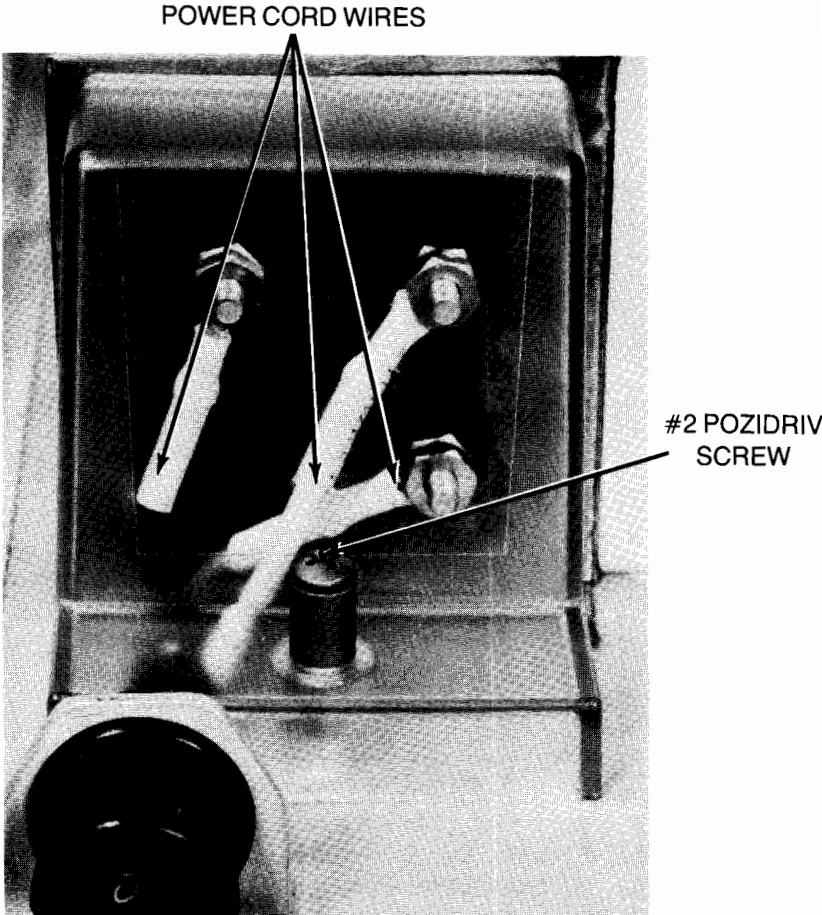

Figure 4-60. Removing Ac Power Cord
3. Remove #2 Pozidriv screw that attaches transparent plastic cover to ac module (Figure 4-60), and remove cover.
4. Remove three nuts that attach power cord wires to ac module terminals and remove power cord (Figure 4-60).